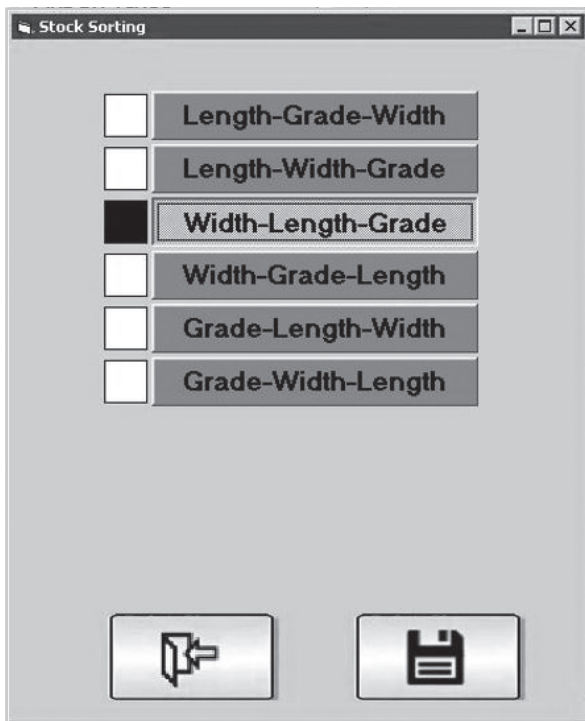

Figure 44
Longest Pc Left will work when the optimizer is on or off, but its usefulness will be limited by the Non-Optimize Look Ahead setting (refer to Figure 44). Alpine recommends setting this value greater than 2 when using Longest Pc Left without the optimizer on. See section 3.8.5 for more information on the Non-Optimize Look Ahead.
- **Sort Pick List** – Enables sorting on user defined keys such as Width-Grade-Length, etc. (see Figure 44 in section 3.7.7 for further explanation).
- The options shown in Figure 44 can be used to sort any pick list. Each category will be fulfilled before the software advances to the next category.